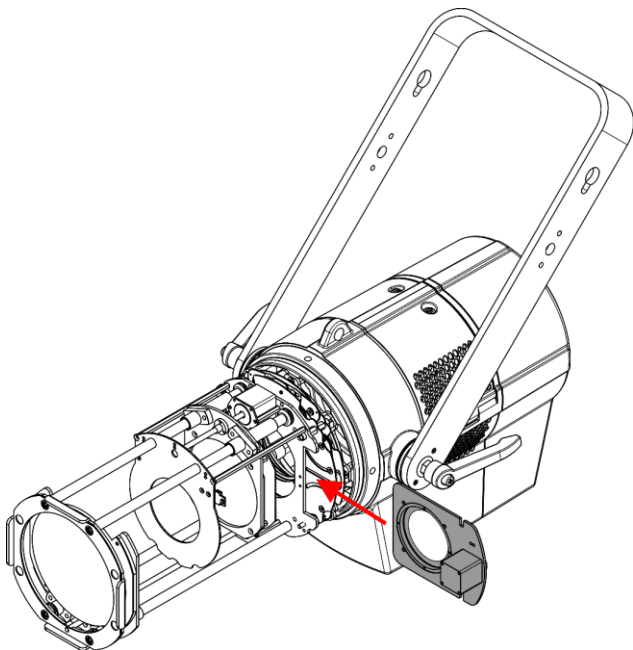
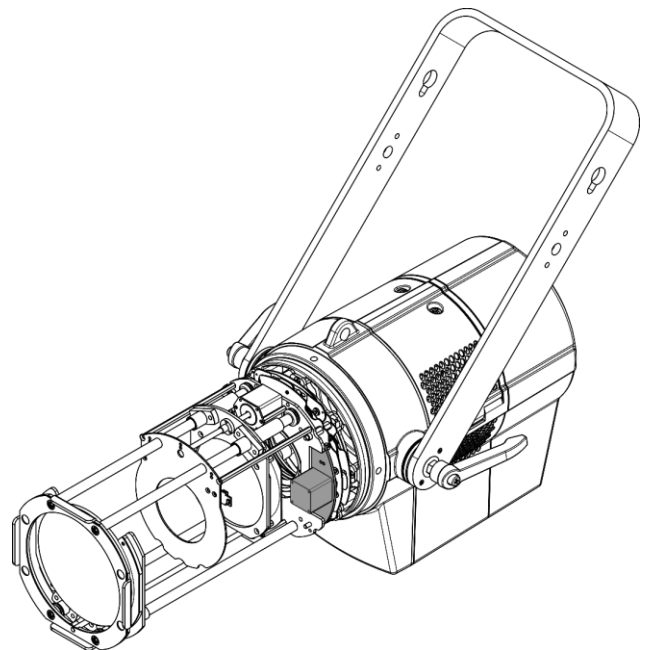

Fig. 05
Fig. 06
02) Slide the gobo holder into the slot (Fig. 05) until it is locked in position (Fig. 06).